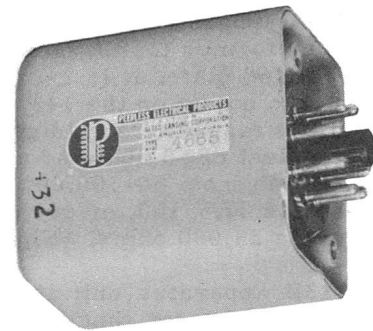

Figure 61 - Altec 4665 Plug-in Transformer
4.02 Noise Operated Automatic Level Adjusting (NOALA) - This is an assembly, Altec-Lansing 12532 built on a 1-3/4" x 19" rack mounting plate. The NOALA requires a control signal from an Altec-Lansing 444B amplifier. The input and output impedances are 600 ohms. Figure 61.
4.04 The Altec 4665 plug-in transformer is used in the Altec 1569A and 1570A amplifiers to permit balanced or unbalanced line inputs of 30/50, 125/150, 250/300, or 500/600 ohms. It measures 2-5/16" high, 2" wide, and 1-1/2" deep and is arranged to plug-in to a standard octal socket. (Figure 61)